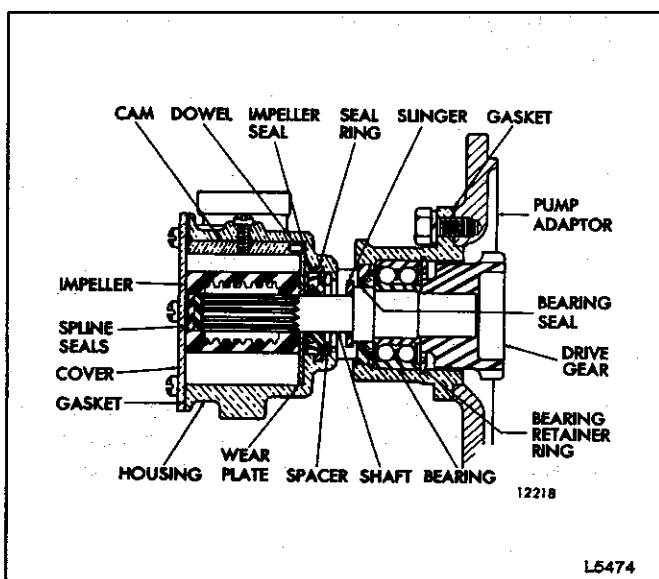

Fig. 1 – Raw Water Pump Used on In-line Engine
Raw water for lowering the temperature of the engine coolant is circulated through the heat exchanger by a positive displacement pump (Figs. 1 and 2). The pump is attached to an adaptor which is, in turn, bolted to the flywheel housing. The pump is driven by a gear which meshes with the accessory drive plate mounted on the camshaft gear.
The current face-type water seal used in In-line engine pumps rides on its own mating surface. The former lip type seal rides on the shaft (Fig. 1).
1. Remove the cover and gasket (Figs. 1 and 2).